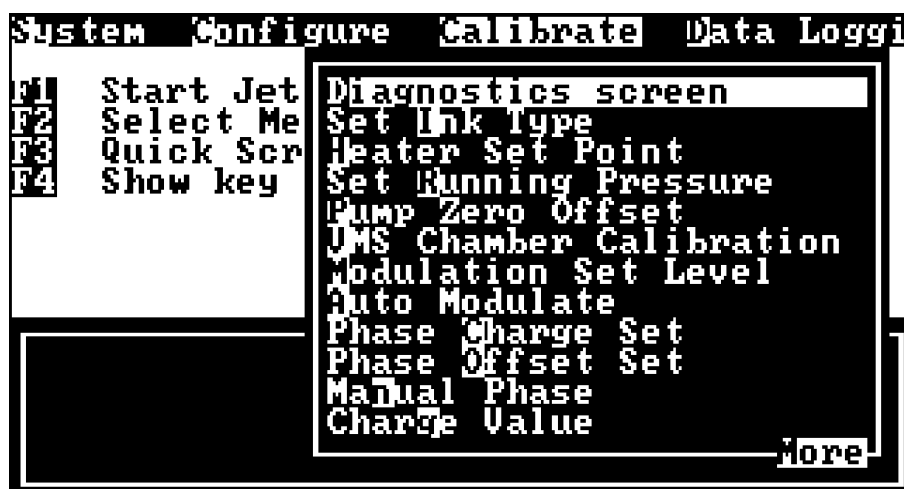

Fig 11.93 Calibrate menu options
- 194** When the Calibrate menu is selected from the menu screen, the calibrate menu options (Fig 11.93) are displayed, a description of these options is as follows: